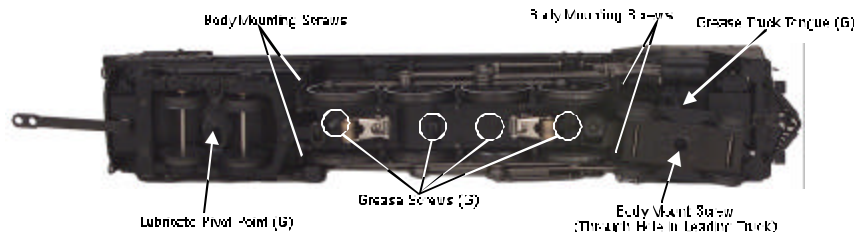

Figure 7a. Location of Body Mount Screws and Greasing Points on the Locomotive
2. Remove the boiler by removing the body mounting screws shown in Fig. 7a
3. Remove the Phillips screw (marked "GREASE") located at each set of wheels (Fig. 7a) and the gearbox cover screws (Fig. 7b).